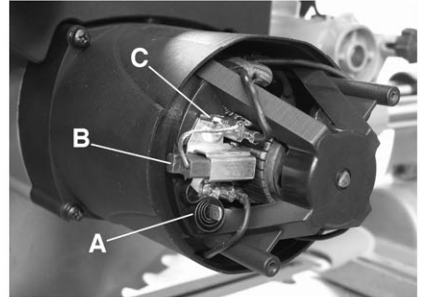
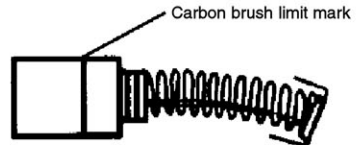

Figure 25
Figure 26
Once the motor housing cap is removed, to release the carbon brush (B) Fig.25 from the holder, lower the retaining spring (A). Disconnect the carbon brush wire (C) from the terminal, remove the carbon brush from the motor housing and inspect it. Repeat this step for the second carbon brush. Carbon brushes need to be replaced once they wear down to the limit mark, see Fig.26. Keep the carbon brushes clean and free to slip in the holders.